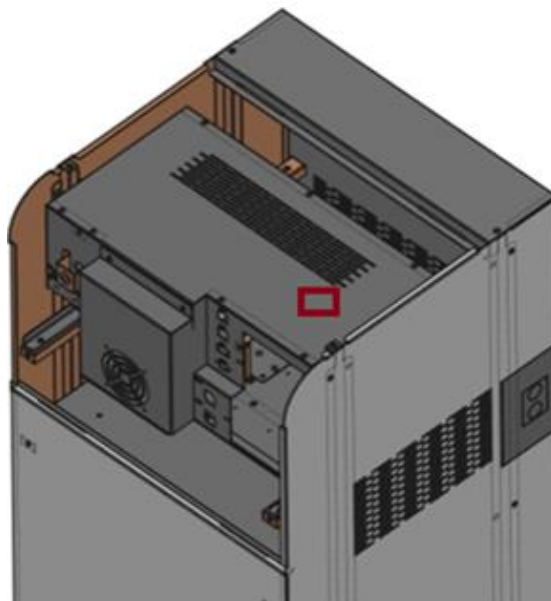

Figure 3 – Hole position for **USB PC port**
- Locate the hole in the upper part of the carter, with the words: “**USB PC**” and connect the cable (the USB is in position indicated by the image) (Fig. 3);